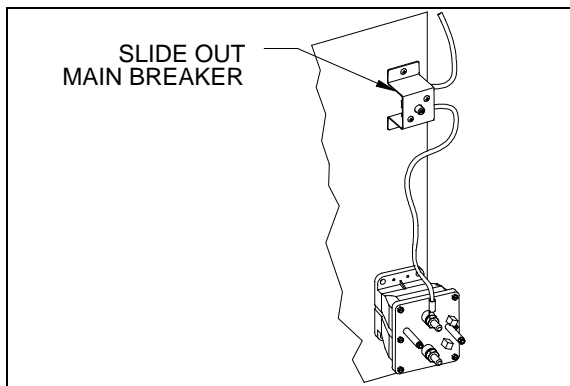
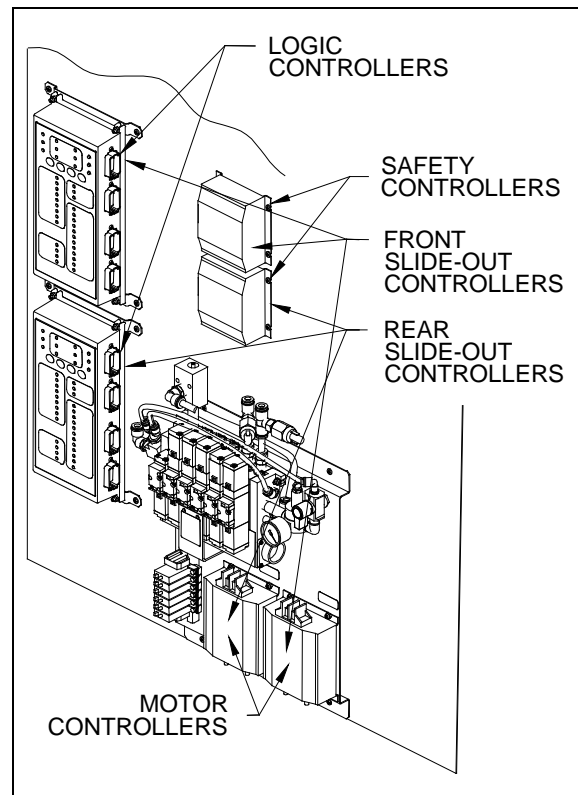
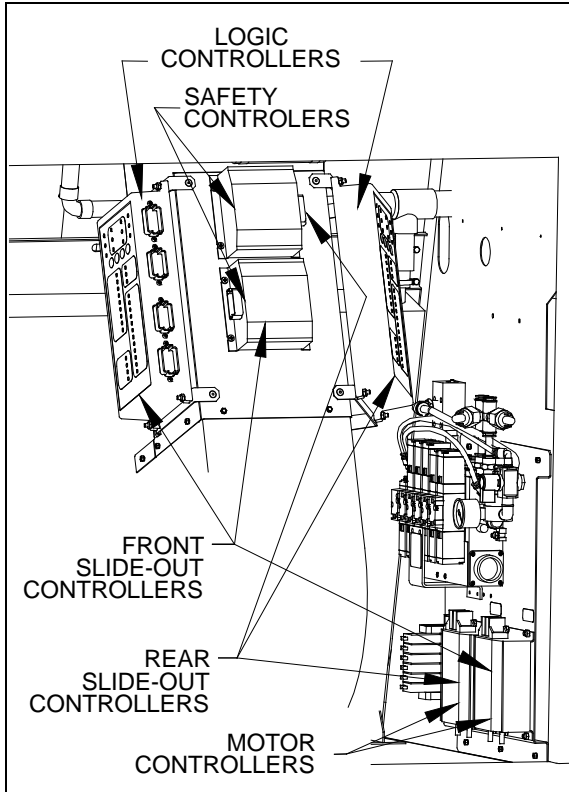
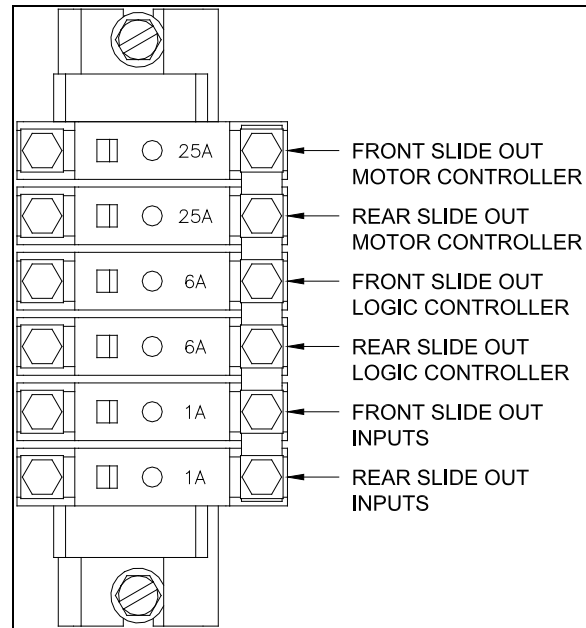

FIGURE 35 : BREAKER IN MAIN POWER COMPARTMENT
FIGURE 36 : SLIDE-OUT ELECTRICAL PANEL (SMALL A/C)
FIGURE 37 : SLIDE-OUT ELECTRICAL PANEL (FULL A/C)
FIGURE 40 : SLIDE-OUT BREAKERS
The main breaker (for both slide-out) is located in the main power compartment (figure 35). All other slide-out breakers are located on the slide-out electrical component panel located in the third baggage compartment on the driver side (figure 36 and figure 40). A one ampere fuse is
The slide-out electronic control system consists of two electronic control modules for each slide-out. Each slide-out has a logic controller, a motor controller and a safety controller. They are located in the third baggage compartment on the driver side (see figure 36 and figure 37).
1. Turn the ignition key to the "OFF" position. For added security, trip the slide-out breakers (figure 40).